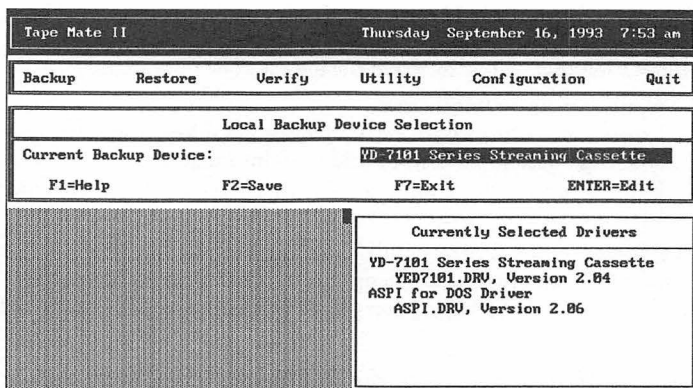

Figure 56 Currently Selected Drivers Dialog Box
- 9 Press [F2]. The names of the selected device and driver (if applicable) appear in a box at the lower right of the screen, as shown in *Figure 56*.